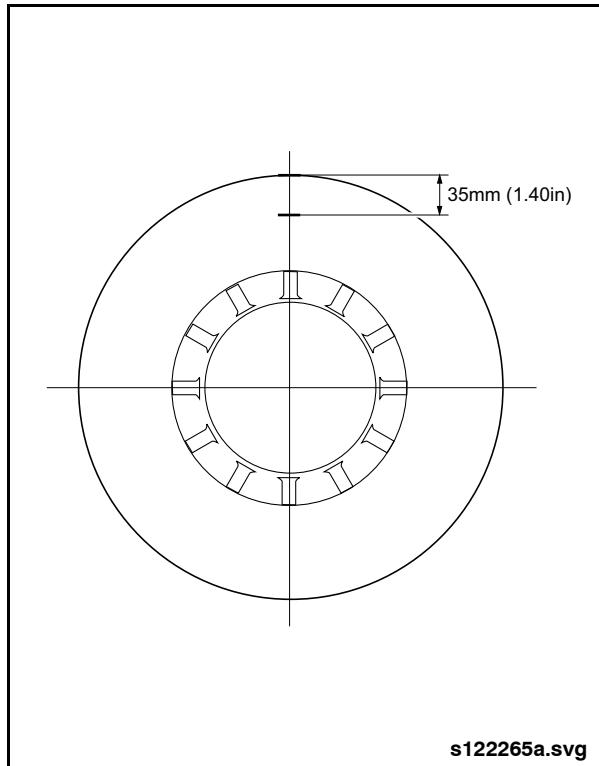

Fig. 1-45: Rotor Run-Out Measurement Point
- a. Mount dial indicator (Items 29 & 69 from special tools list) so that tip of indicator is perpendicular to brake disc surface at 1.40" (35 mm) down from the outer rim of the rotor. See "Fig. 1-45: Rotor Run-Out Measurement Point" on page 55.